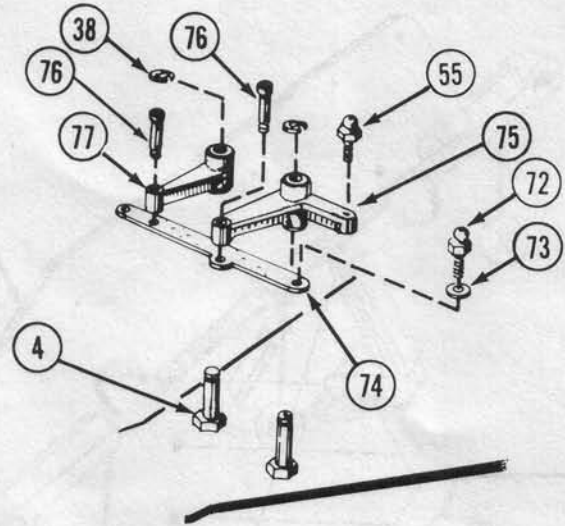

FIG. 28
1. Thread two 3/16" studded ball joints (72) using brass washers (73) in both ends of steering sector arm (74). Fig. 28.
2. Thread 3/8" studded ball joint (55) into the smallest hole in steering bell crank (75). Attach steering bell crank (75) to steering sector arm (74) using a 4-40 x 1/8" socket head shoulder screw (76). Check for freedom of movement. Fig. 28.
3. Attach idler arm (77) to the remaining hole in the steering sector arm (74) using a 4-40 x 1/8" shoulder screw (76). Fig. 28.
4. Slide steering bell crank (75) and idler arm (77) down onto steering posts (4) with steering sector arm (74) in front of steering posts (4) and secure with two 3/16" E-clips (38). Fig. 28.